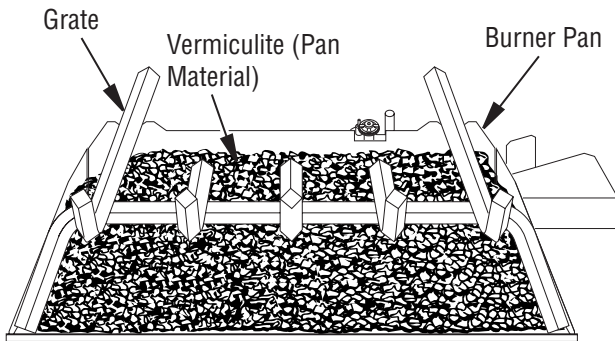

Figure 19 - Place Vermiculite on Burner Pan per Instructions
1. Open bag(s) of vermiculite and fill until it is even across burner pan (see **Figure 19**).